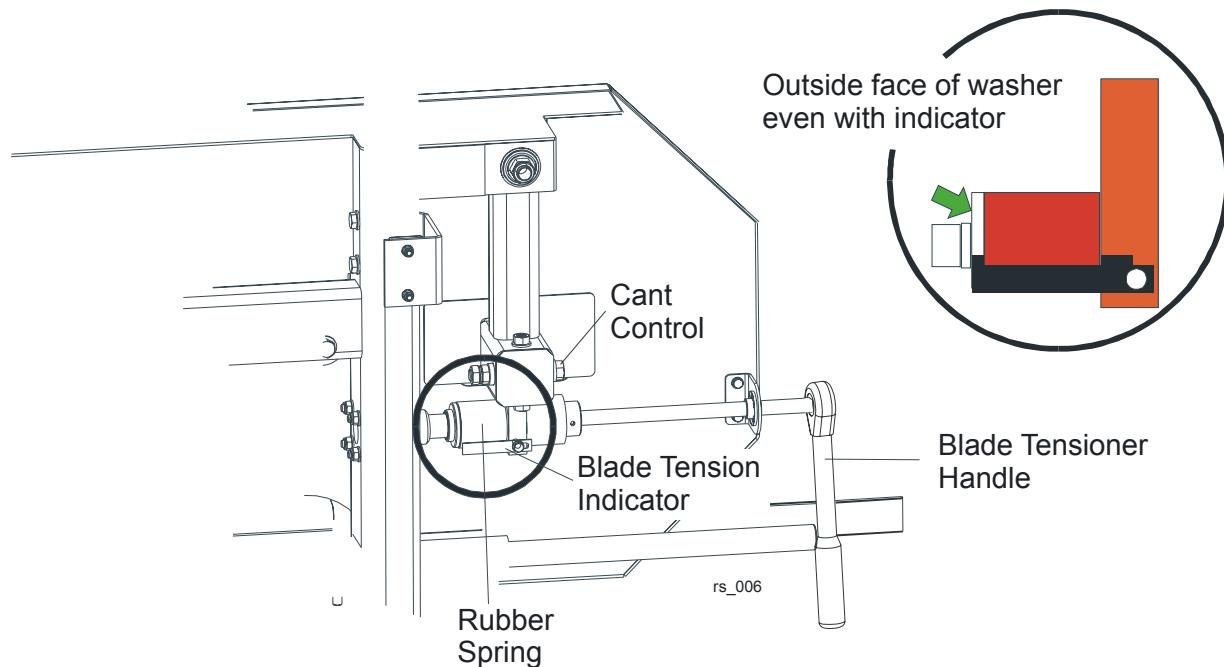

FIG. 2-2
See Figure 2-2. Place the provided ratchet on the blade tensioner shaft. Turn the ratchet clockwise until the outside face of the rubber spring washer is even with the indicator (see the figure below). Check the blade tension occasionally when adjusting the cant control or while cutting and adjust if necessary. As the blade and belts heat up and stretch, the blade tension will change. Also, ambient temperature changes can cause tension to change.
5. Use the cant adjustment bolt, shown in **Figure 2-2**, to adjust where the blade travels on the blade wheels.